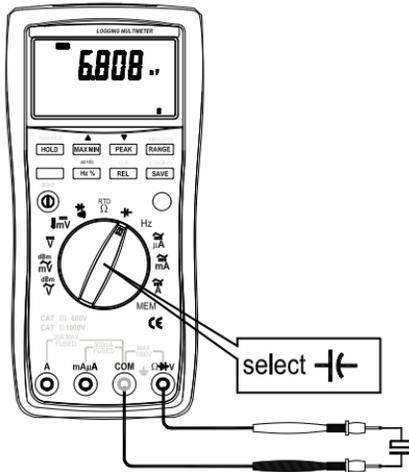

Figure 3-9. Capacitance Measurement
*Measuring Capacitance (See Figure 3-9)*